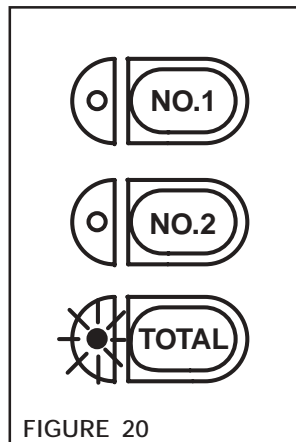

FIGURE 20
2. Press and hold the **SElect** Key until the SElect Indicator illuminates, indicating the TC820 is in data setting mode (See Figure 16). The No. 1, No. 2, and TOTAL Tension Sensor Display Indicators will extinguish (See Figure 20).